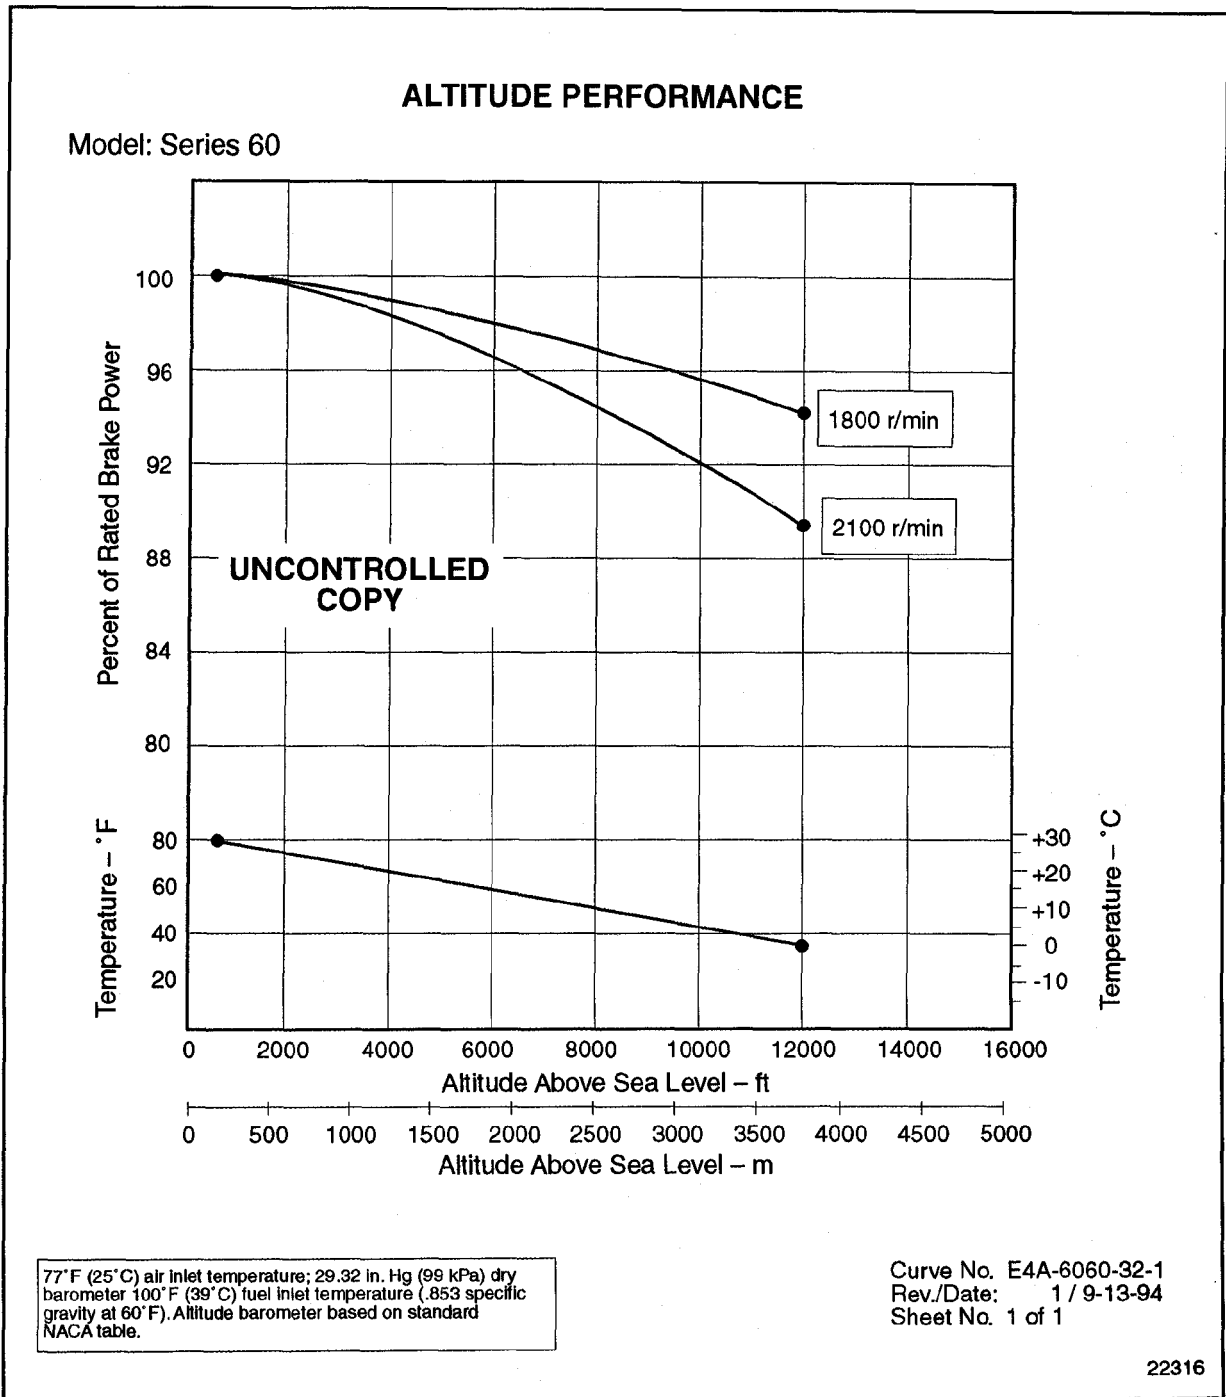

Figure 25-3 Altitude Performance Curves
To determine if high altitude operation is causing lack of power, see Figure 25-3:
1. Based on the altitude curve data, see Figure 25-3, decide if high altitude is causing the lack of power.